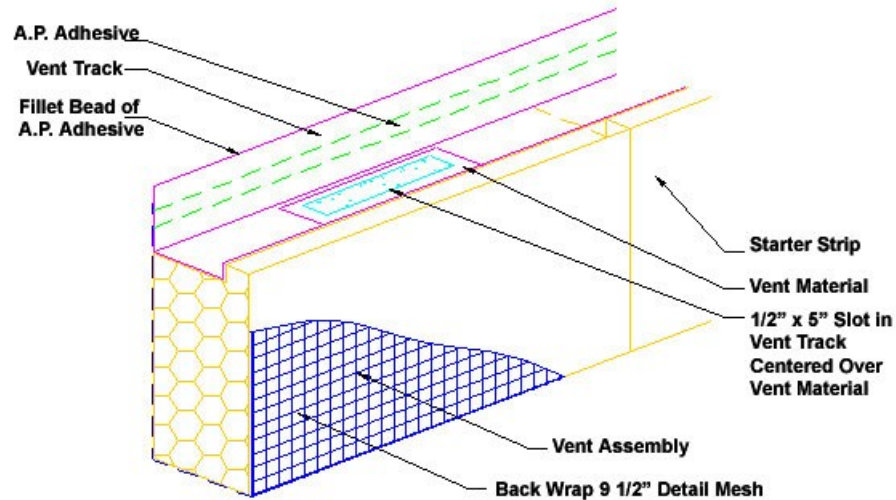

Fig. 21
7. Install the Dryvit Vent Track and Dryvit Track by applying a continuous horizontal bead of Dryvit's AP Adhesive on the wall side of the vertical nailing flange of the track and position over the Dryvit Starter Strip. When installing the Dryvit Vent Track the cut out (slot) must be located directly above the Dryvit Vent Assembly – Figure 21. Press firmly against the substrate to ensure firm and continuous contact between the adhesive and the wall surface.